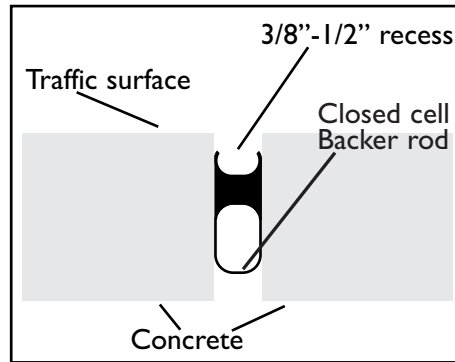

Figure 1
**Application:** Ideal surface temperature should be 60°F - 85°F ( 16°C 0- 29°C) Sealant should be applied to the prepared joint in a continuous operation. Tool the sealant slightly concave using dry-tooling techniques. **Sealant must be recessed 3/8"-1/2" below the traffic surface.** (See Figure 1).
**Shelf Life:** Approximately one (1) year when stored in original, unopened container in a dry area at temperatures below 80°F (27°C).